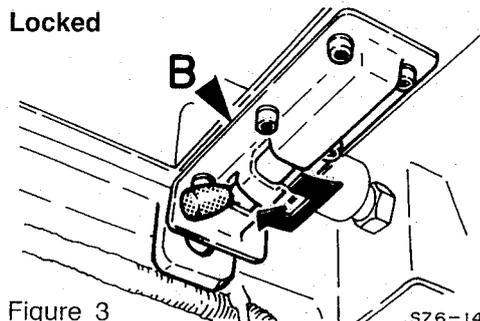

Figure 3
- 3 Lock the window securely into the roof using lock "B". (Refer to Figure 3.)